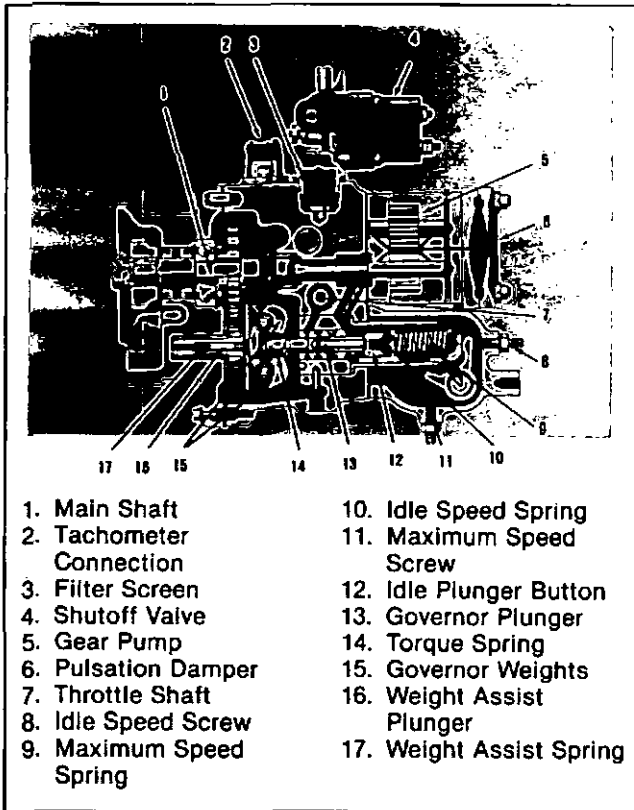

Fig. 10-67, (FWC-10). PT (type G) fuel pump with SVS governor.
1. Follow the first seven (7) steps under the standard fuel pump calibration.
2. Adjust the cut off speed with the SVS high speed screw in the bottom of the SVS governor, Fig. 10-67. If the screw runs out of adjustment and the speed is still too low, change the shims. Add shims between the governor spring and the throttle plunger.
2. Adjust the cut off speed with the SVS high speed screw, Fig. 10-67. If the screw runs out of adjustment and the speed is still too low, change as follows. Add shims between the governor spring and the throttle plunger.